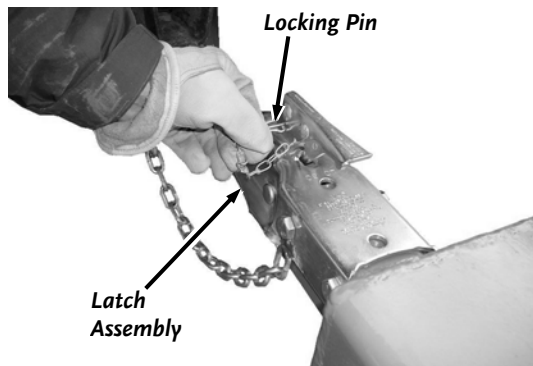

Figure 46
3. Insert the Locking Pin into the hole of the Latch Assembly to lock it in the closed position (**Figure 46**).